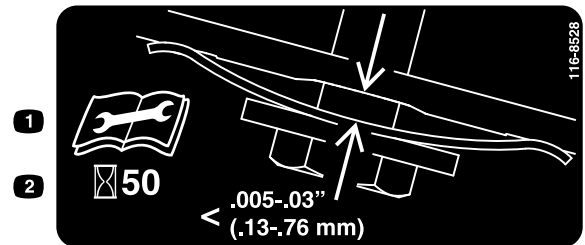

Figure 29
3. Hold a feeler gauge set between 0.13 and 0.76 mm (0.005 and 0.03 inches) against the wall and slide it down behind the belt tension spring; refer to Figure 29.